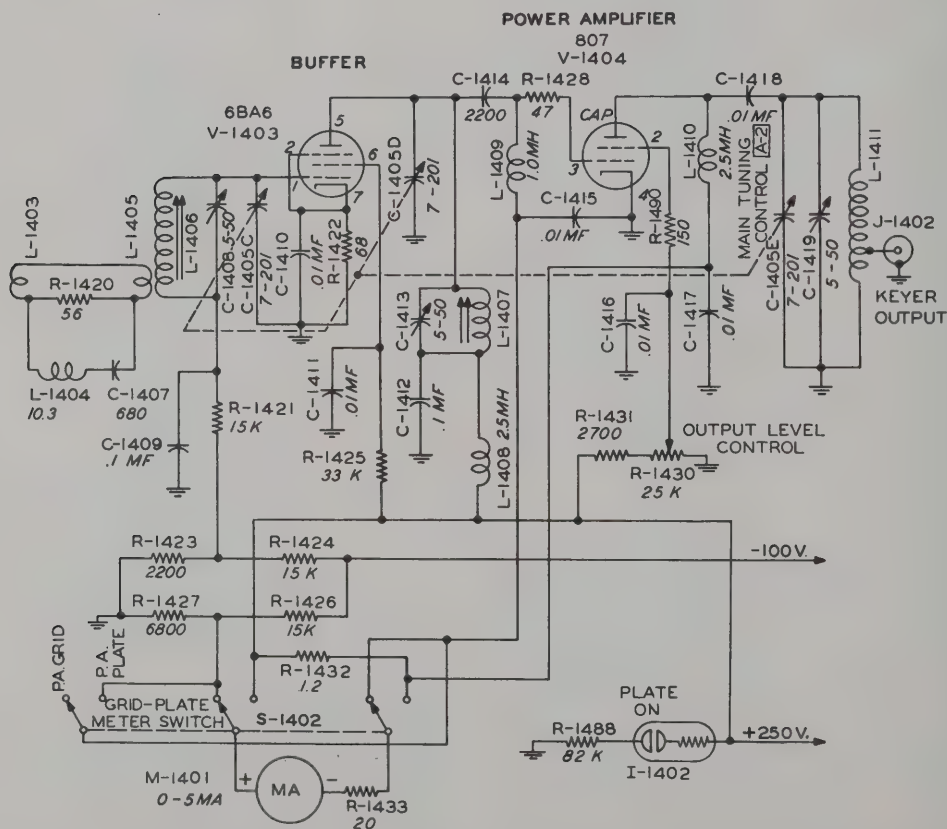
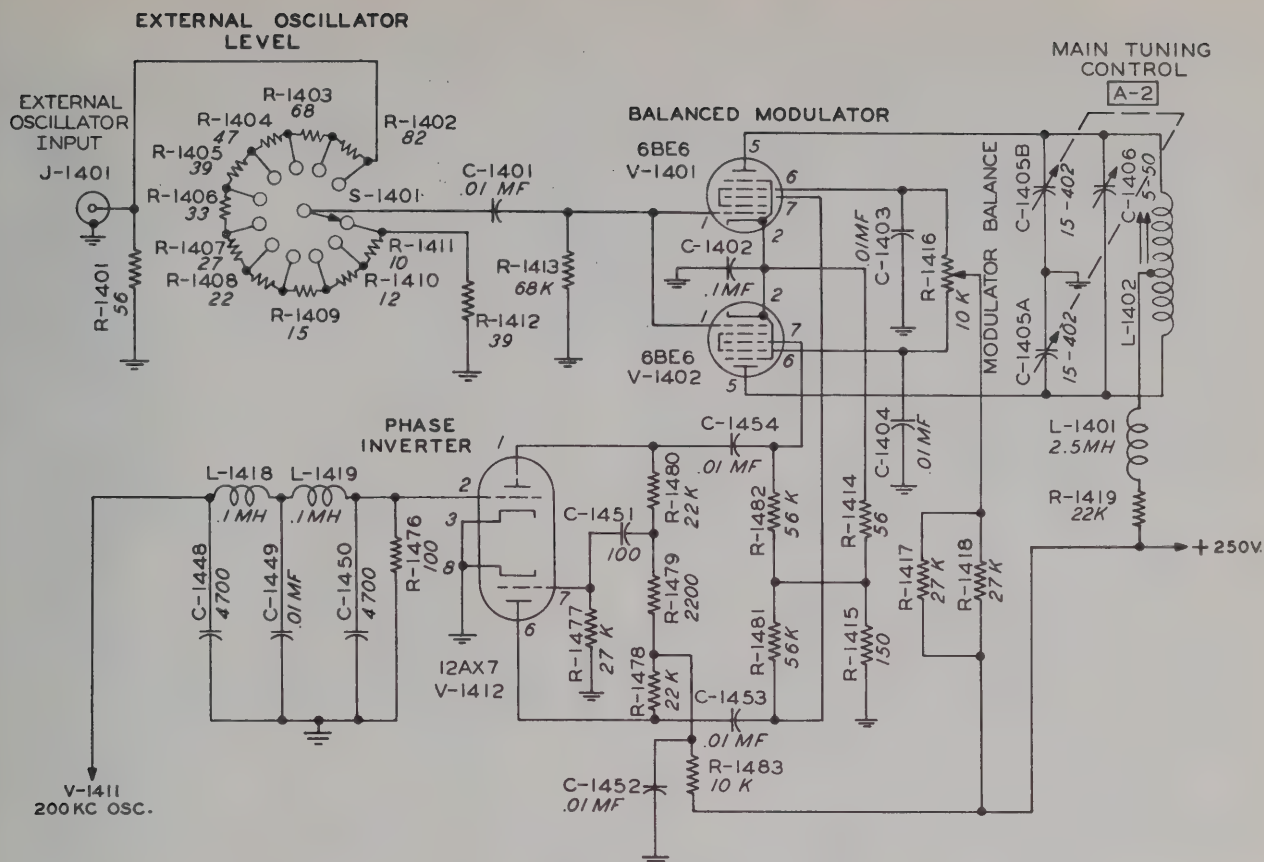

Figure 104. Frequency-Shift Keyer KY-45/FRT-5, Buffer and Power Amplifier, Schematic Diagram.
Figure 105. Frequency-Shift Keyer KY-45/FRT-5, Balanced Modulator and Phase Inverter, Schematic Diagram.
- (1) *Operating frequency.* The keyer requires an injection voltage in the range 2.2 to 4.2 megacycles, 200 kc higher than the operating range. This injection voltage is mixed with a internal 200-kc source of frequency-shifted voltage to produce output in the range 2 to 4 megacycles. The external injection voltage ordinarily is provided by R-F Oscillator O-91/FRT-5, but any stable injection voltage of good wave form in the range 2.2 to 4.2 mc may be used.
- (2) *Balanced modulator, buffer and final amplifier.* A simplified schematic of the high-frequency portions of the frequency-shift keyer is shown in figure 104. A radio-frequency source in the range 2.2 to 4.2 megacycles is fed into J-1401 and then to the No. 1 grid of V-1401 and V-1402, which constitute the balanced modulator (fig. 105). The No. 3 grids of V-1401 and V-1402 are excited in push-pull from a 200-kc voltage derived from the frequency-shifted oscillator. Since the high-frequency input is supplied
- (4) *200-kc filter and phase inverter.* Fig. 105 shows the 200-kc filters and the phase inverter in simplified form. Because harmonics of the 200-kc oscillator fall within the pass band of the high-frequency circuits of this keyer, these harmonics must be suppressed to eliminate spurious output. This is done with low-pass filters consisting of C-1448, C-1449, C-1450, L-1418 and L-1419. This filter passes the fundamental with very little attenuation, but offers a high degree of rejection in the second and higher harmonics of the 200-kc oscillator. The phase inverter tube, V-1412, serves to produce push-pull 200-kc voltage for application to the No. 3 grids of the balanced modulator tubes. This phase inverter employs a twin triode to secure push-pull output voltages.